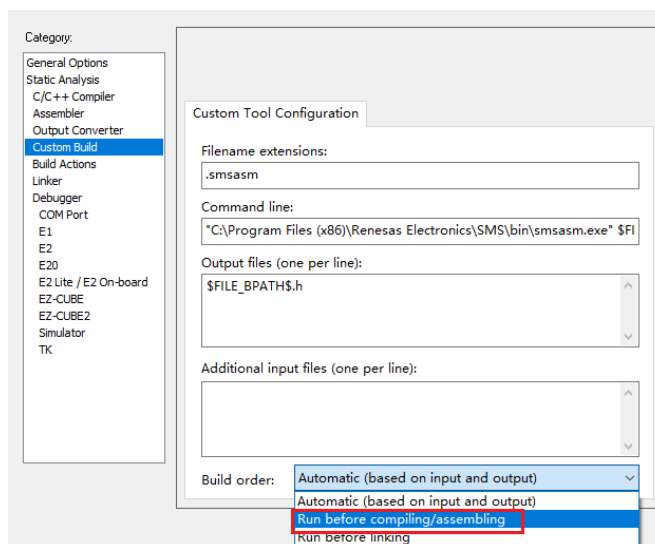

Figure 6-11 "Build order" setting of IAR Embedded workbench V5.10
- 1) When using IAR Embedded workbench V5.10, select "Run before compiling/assembling" (refer to Figure 6-11)